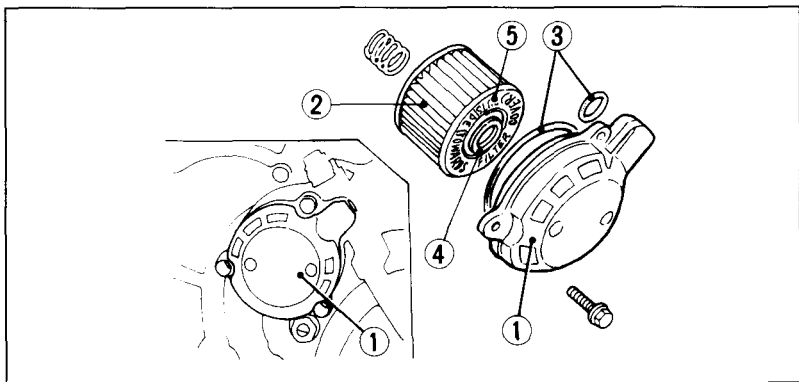

Fig. 4-13
(1) Oil drain plug
3. Remove the oil filter cover (Fig. 4-13) by removing the screws. Let the remaining oil drain out. Discard the oil filter (2).
4. Check that the oil filter cover O-rings (3) are in good condition and then install a new oil filter. Use only the Honda genuine oil filter or a filter of equivalent quality specified for your model. Using the wrong Honda filter or a non-Honda filter which is not of equivalent quality may cause engine damage.
6. Reinstall the oil filter cover (1), making sure the bolts are tightened securely.